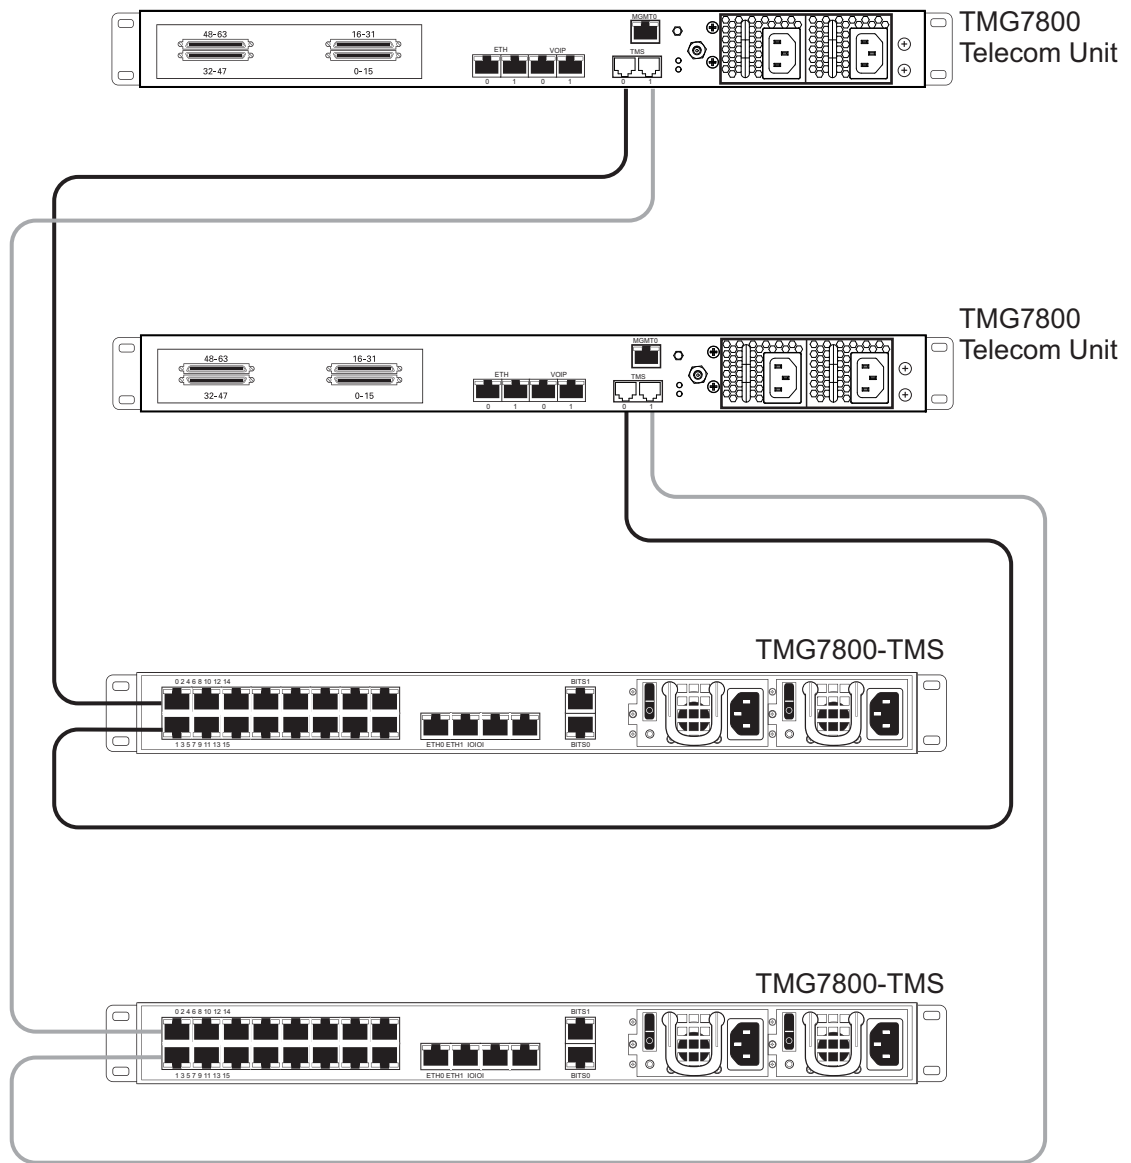

Figure 4.10 Interconnecting Two 7800 Telecom Units to an active and standby 7800-TMS
1. Start with the 7800 Telecom Unit at the topmost position of the equipment rack and connect a TelcoBridges CAT7 shielded Ethernet crossover cable to the TMS0 connector at the rear of the 7800 Telecom Unit, figure 4.10 on page 38. Connect the other end of the same TelcoBridges CAT7 cable to the first port of the first 7800-TMS.
2. If your system employs a second 7800-TMS, connect a second TelcoBridges CAT7 shielded Ethernet crossover cable to TMS1 at the rear of the TMG7800 Telecom Unit, figure 4.10 on page 38. Connect the other end of the same TelcoBridges CAT7 cable to the first port of a second 7800-TMS.